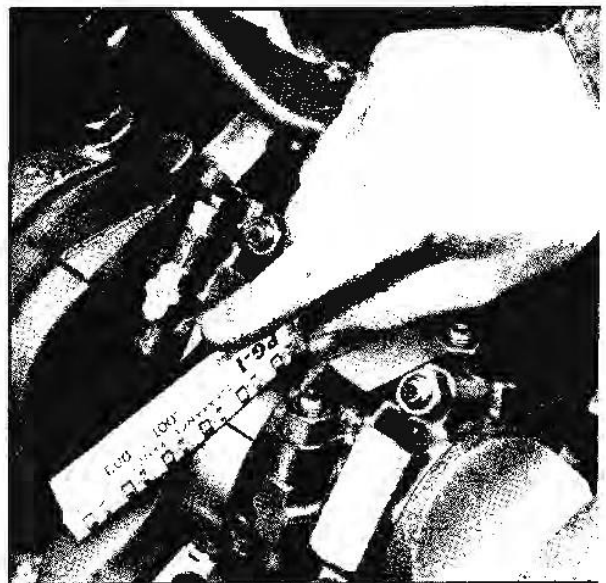

Fig. 6-135 Measuring Plastigage
4. Remove bearing cap and using Plastigage scale on envelope measure width of compressed Plastigage before removing it from the bearing or journal (Fig. 6-135). If the bearing clearance is between .0005 and .0020", the clearance is satisfactory. If the clearance is more than .0020", replace the bearing with the next size undersize bearing and recheck clearance. Bearings are available in standard size .001" and .002" undersize.